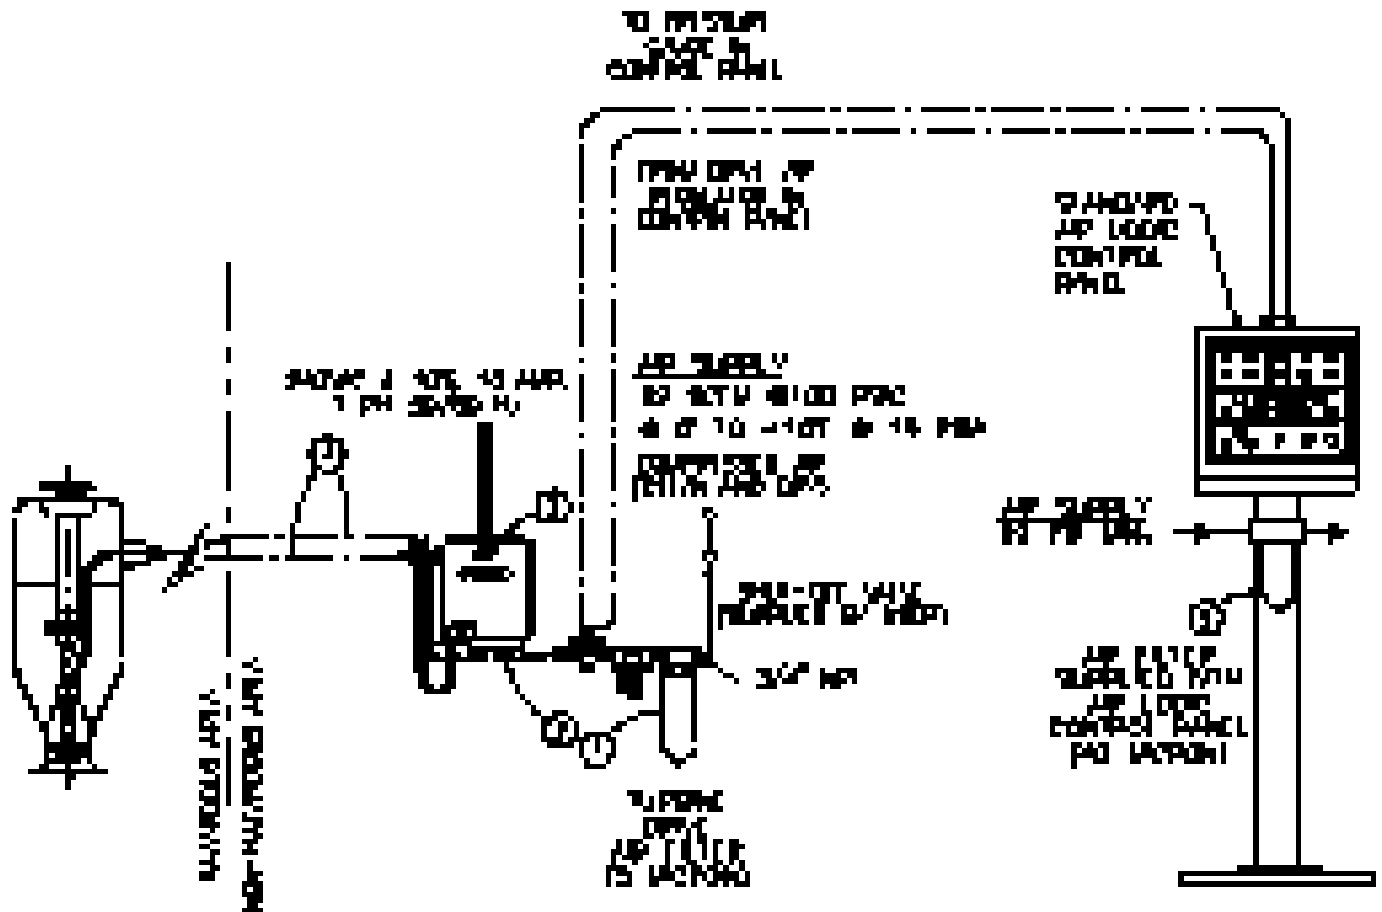

Figure 2: Typical Turbodisk 2 Drive Air System and Air Logic Control Panel
-REFER TO FIGURE 2
## TYPICAL TURBODISK 2 DRIVE AIR SYSTEM & AIR LOGIC CONTROL PANEL - PARTS LIST (Figure 2)